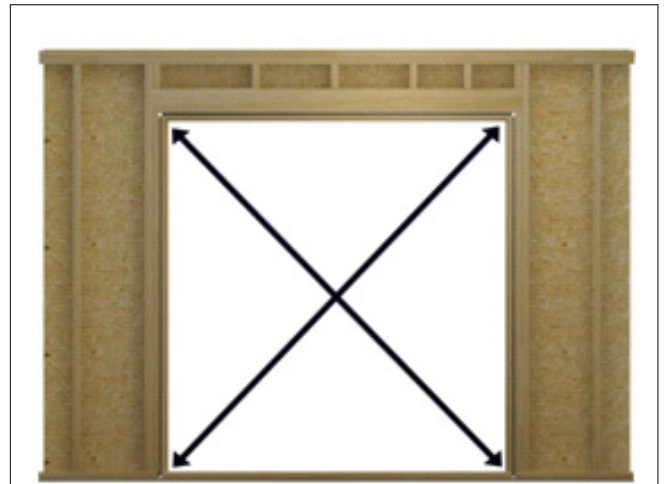

Figure 3
3. Be sure to shim above each vertical through jamb fastener location. This will end up being between hinge install screws in applicable configurations. Measure the diagonals of the door from corner to corner. When the diagonals are equal, the frame is square in the opening. See Figure 3.